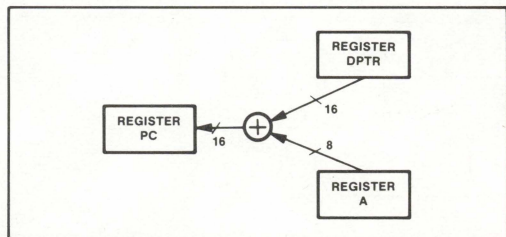

Figure 7-23. Unconditional Branch (Indirect) Operation
The register-indirect jump in the 8051 permits branching relative to a base register (DPTR) with an offset provided by the non-signed integer value in the index register (A). This accommodates N-way branching. The indirect jump is shown in Figure 7-23.